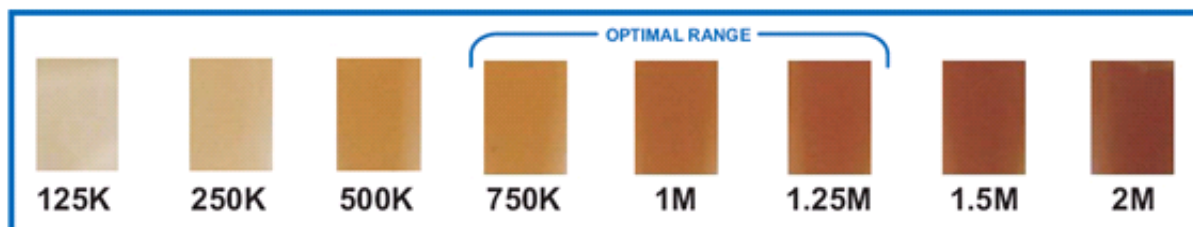

Figure 21 The SOLiD™ Bead Concentration Chart (facsimile). For best results, use the SOLiD™ Bead Concentration Chart (PN 4415131), supplied separately.
3. Use the SOLiD™ Bead Concentration Chart (Applied Biosystems PN 4415131) to estimate the bead concentration of the beads (see Figure 21 for a picture of the chart; for best results use the official chart).